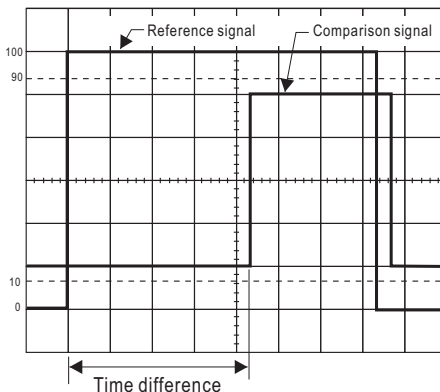

Fig. 14
(Refer to Fig. 14)
3. Use the Y POSITION controls to superimpose both waveforms to intersect the center horizontal graduation line as shown in Fig. 14.
For the example shown in Fig.14, the horizontal distance measured is 4.4 divisions. If the sweep TIME/DIV is 0.2 ms and X10 magnification is not used, the time difference is calculated as follows: